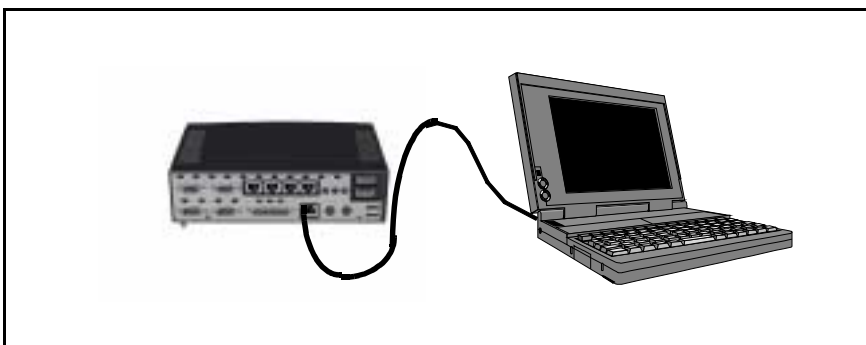

Figure 15-11 MDS, Laptop Connection Hardware Connection
1. Connect Crossover Cable from Laptop Network Interface Card Ethernet Port to MDS Main Ethernet Port (① in Figure 15-11).